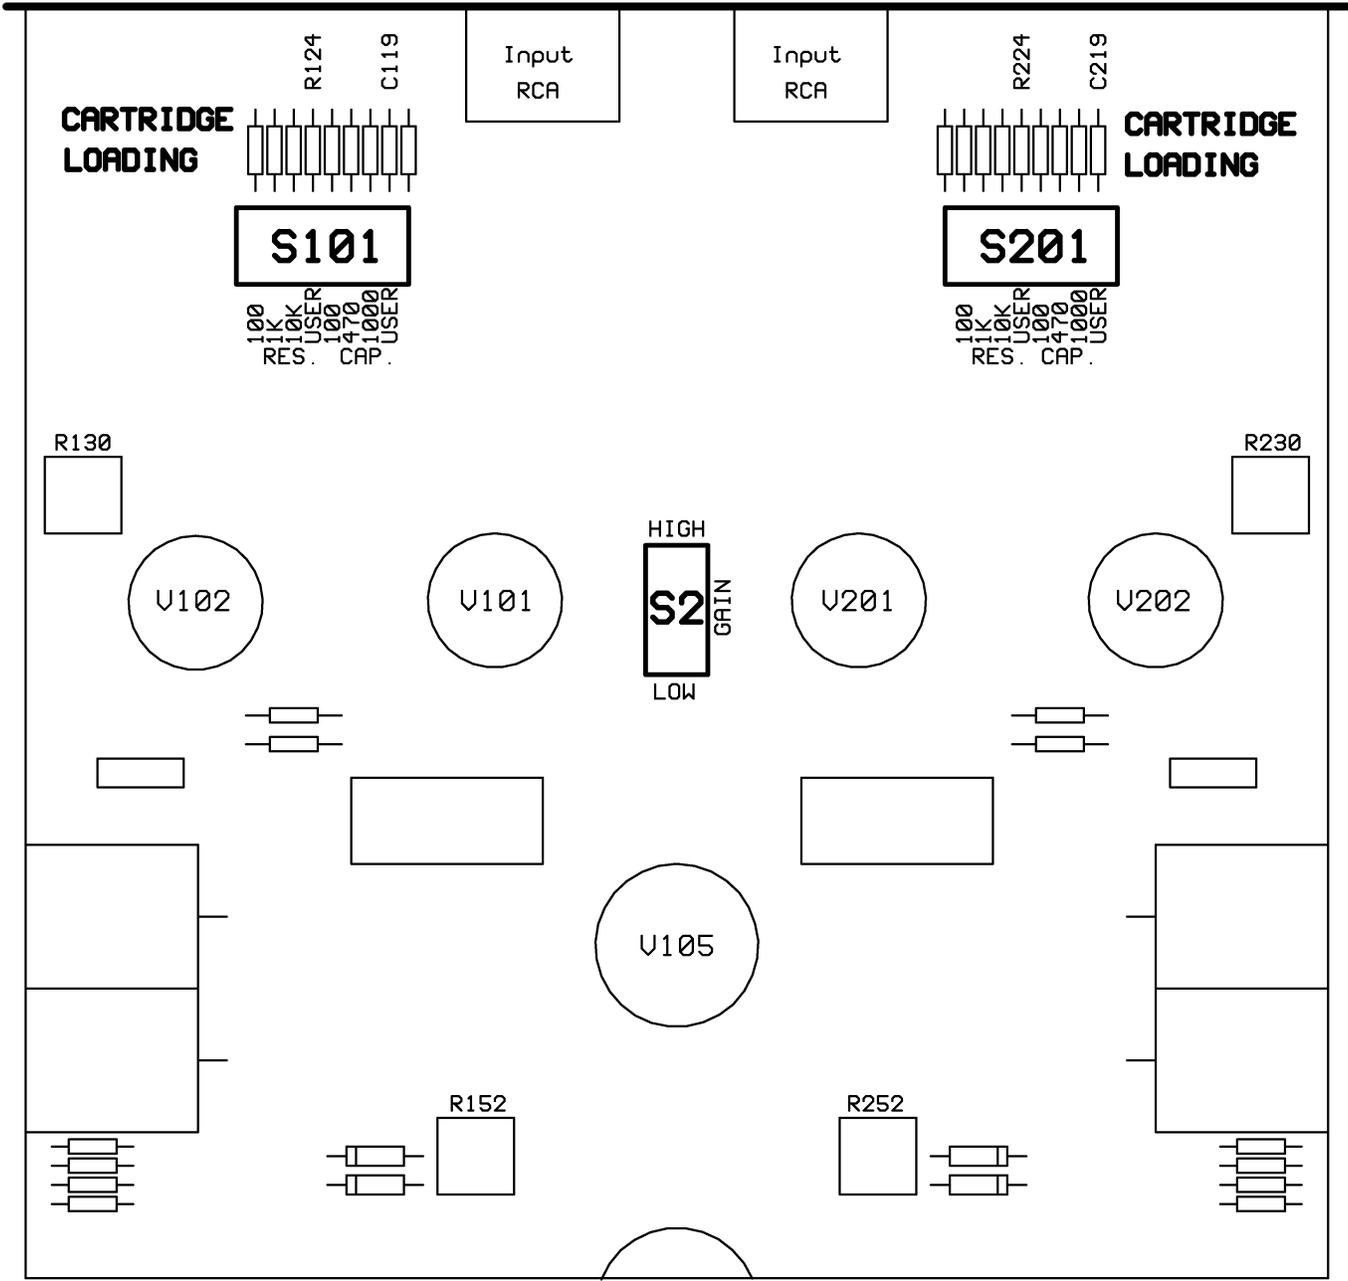

Figure 1: UK-P5 Internal Controls
**Figure 1** depicts the locations of the VK-P5 internal configuration switches. These include: